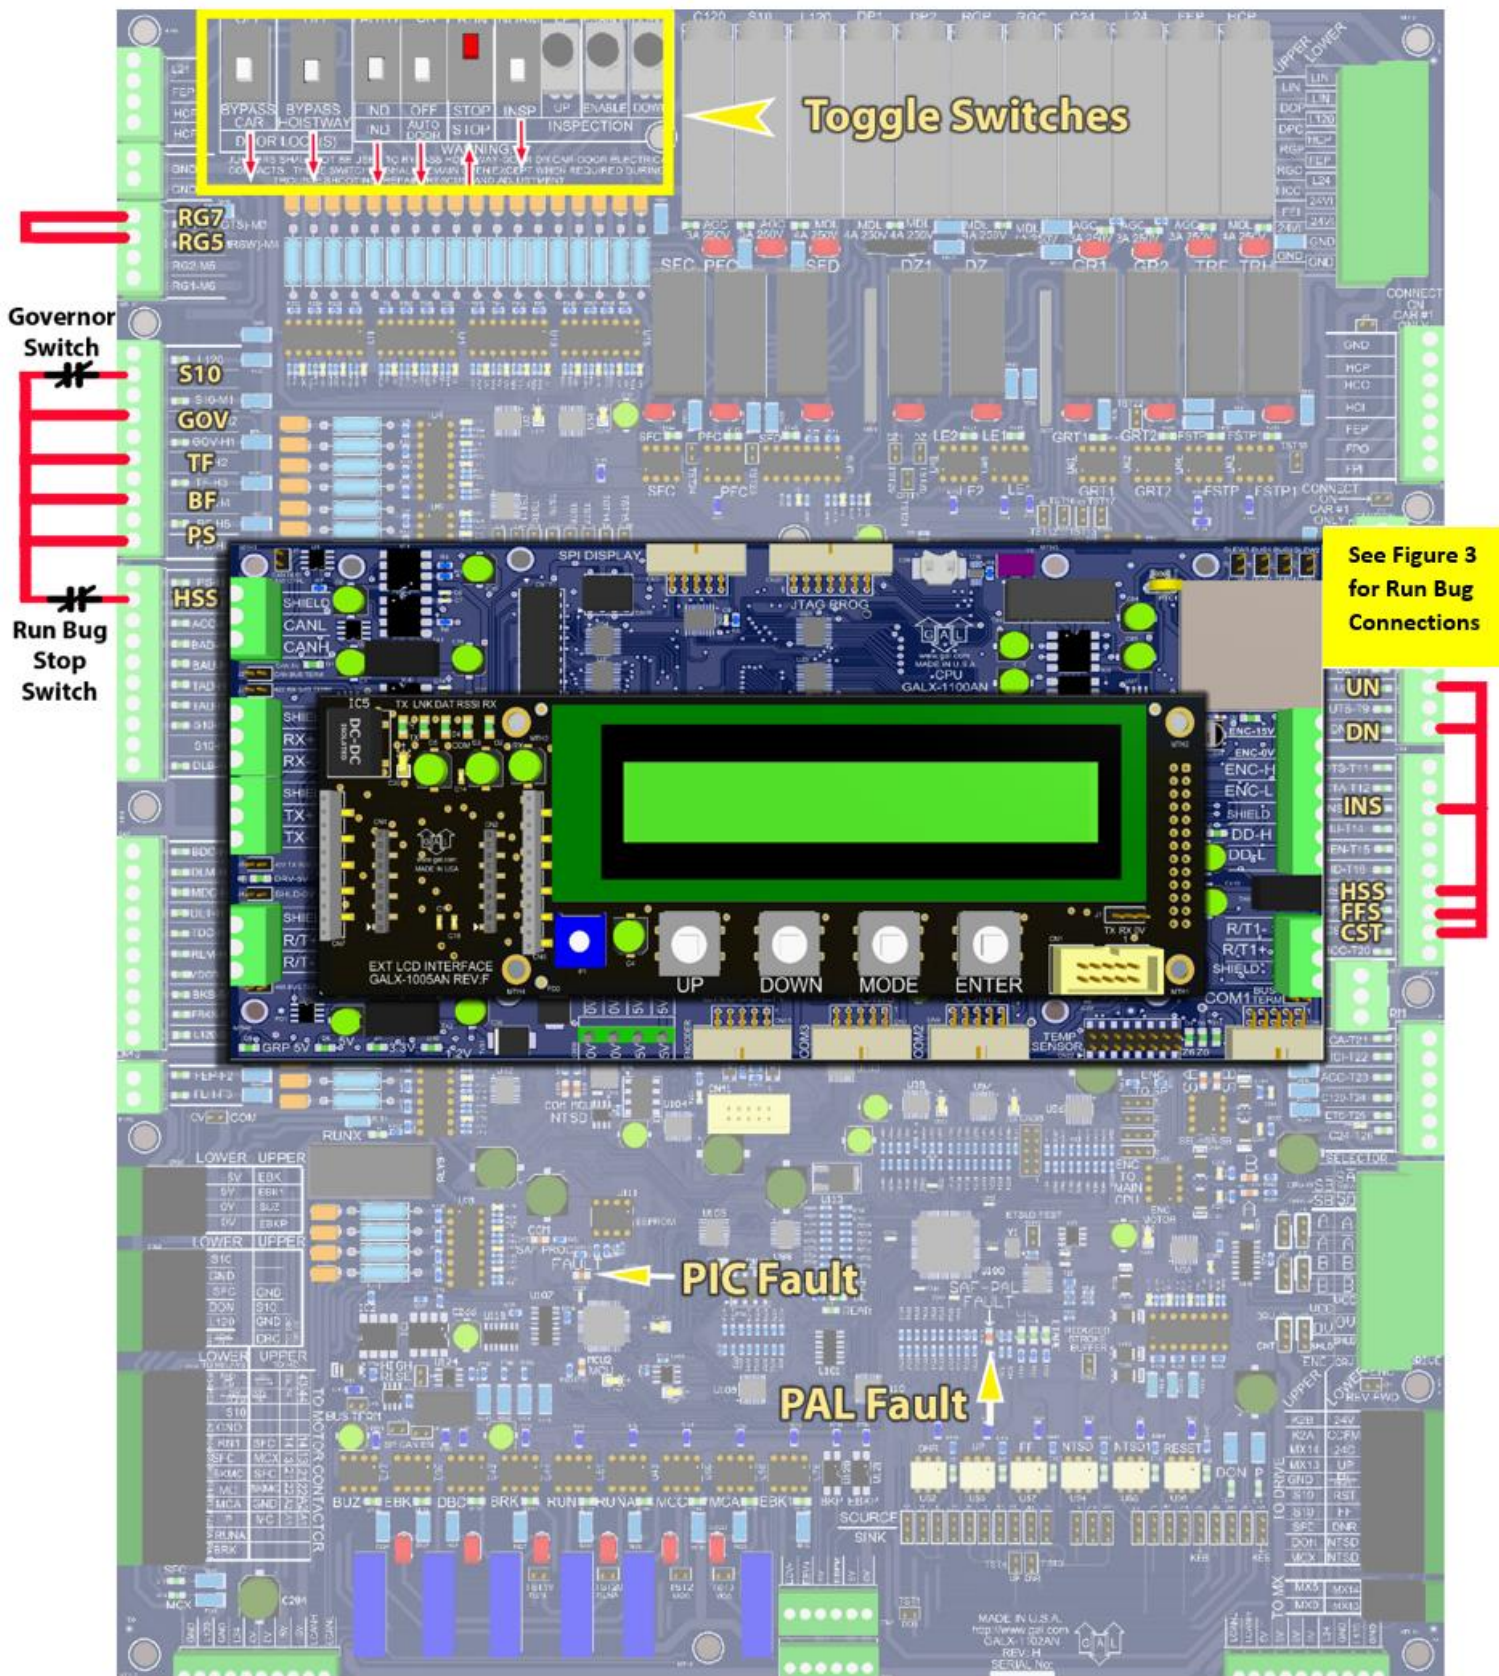

Figure 4: GALX-1102AN Main I/O Board
- 1.6 Set the toggles switches on the GALX-1102 Main I/O Board as shown in Figure 4.
- 1.9 Verify the PIC and PAL fault LED’s are off. See the GALX-1102AN Main I/O Board in Figure 4. If these LED’s are on, refer to the GALaxy IV adjustment manual for possible causes of these faults.